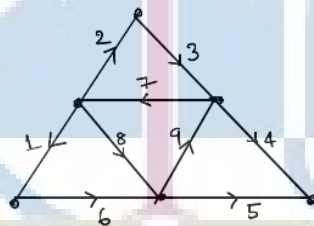

Figure 7: Figure for question 14 (b).
- (b) For the graph shown in Fig. 7, write the cut-set (KCL) equations for the following cut-sets: $\{1, 6\}$, $\{1, 2, 7, 8\}$, $\{5, 6, 8, 9\}$ and $\{2, 5, 7, 9\}$. Will this set of equations form an independent set of equations? If not why? (6)